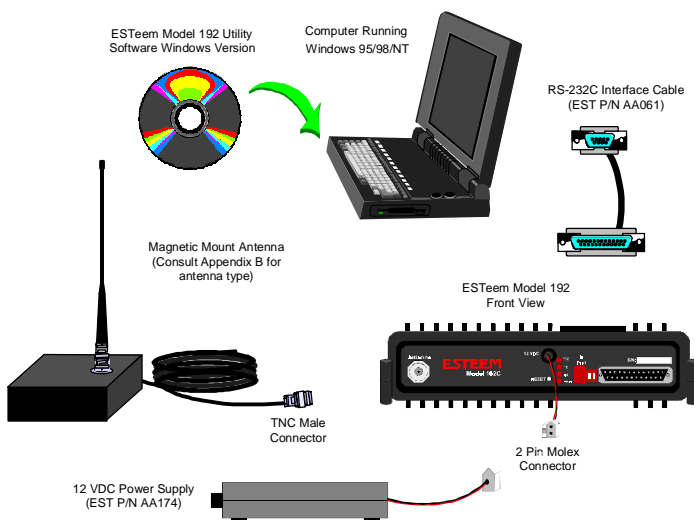
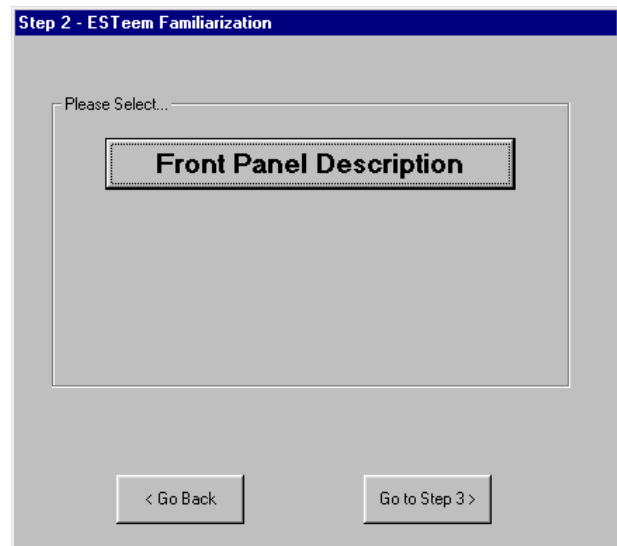

Figure 1: Installation Diagram
Figure 6: Step 2 – ESTEem Familiarization
3. Step 2 – ESTEem Familiarization window will be displayed (Figure 6). This step will explain the connections to ESTEem Model 192 front panel. See Figure 1 for a setup diagram.
Note: A standard 9-Pin serial port on a computer to ESTeem interface cable is the ESTeem AA061 (Figure 1).